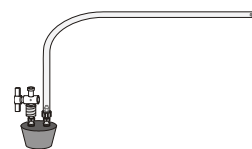

Figure 4
- b. Obtain a rubber-stopper assembly with a piece of heavy-wall plastic tubing connected to one of its two valves (see Figure 4). Attach the connector at the free end of the plastic tubing to the open stem of the gas pressure sensor with a clockwise turn. Leave its two-way valve on the rubber stopper open (lined up with the valve stem as shown in Figure 4) until Step 5.